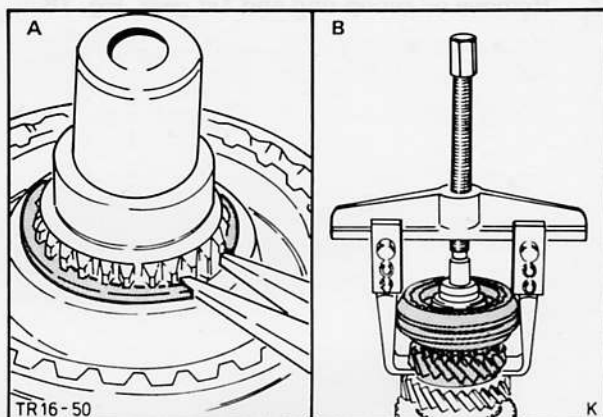

Fig. 75. A – Remove circlip of 3rd/4th gear synchroniser hub
12. Remove circlip of 3rd/4th gear synchroniser hub and pull off synchroniser hub and 3rd gear with suitable remover, Fig. 75.